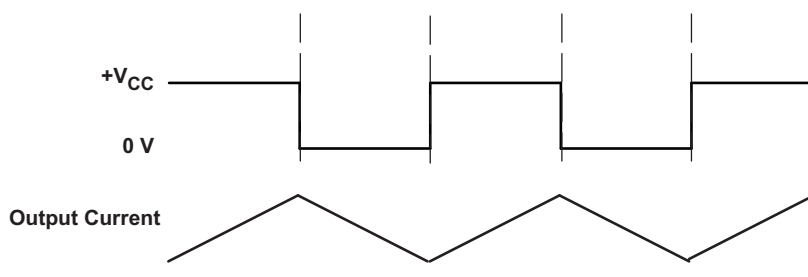
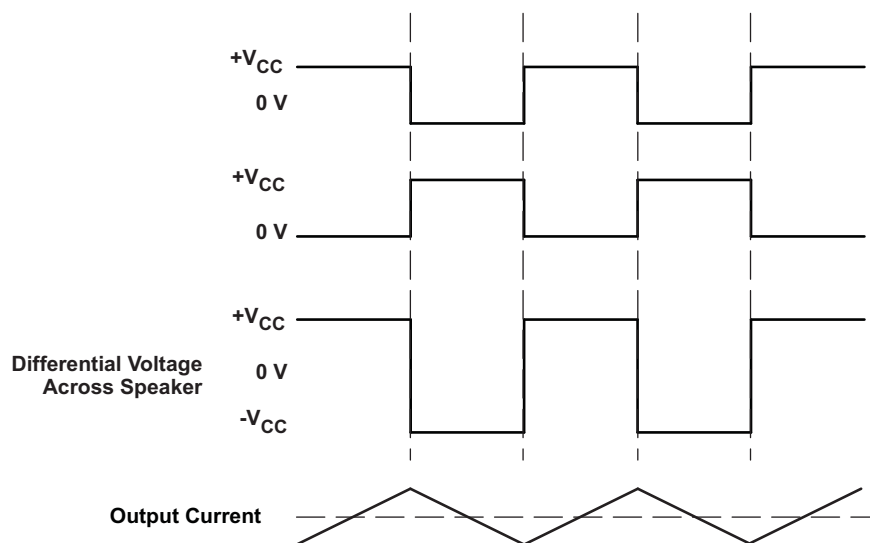

Figure 23. Class-D Modulation for TPA3120D2 SE Configuration
Figure 24. Class-D Modulation for TPA3120D2 BTL Configuration
The TPA3120D2 operates in AD mode. There are two main configurations that may be used. For stereo operation, the TPA3120D2 should be configured in a single-ended (SE) half bridge amplifier. For mono applications, TPA3120D2 may be used as a bridge tied load (BTL) amplifier. The traditional class-D modulation scheme, which is used in the TPA3120D2 BTL configuration, has a differential output where each output is 180 degrees out of phase and changes from ground to the supply voltage, V_{CC} . Therefore, the differential prefiltered output varies between positive and negative V_{CC} , where filtered 50% duty cycle yields 0 V across the load. The class-D modulation scheme with voltage and current waveforms are shown in Figure 23 and Figure 24.